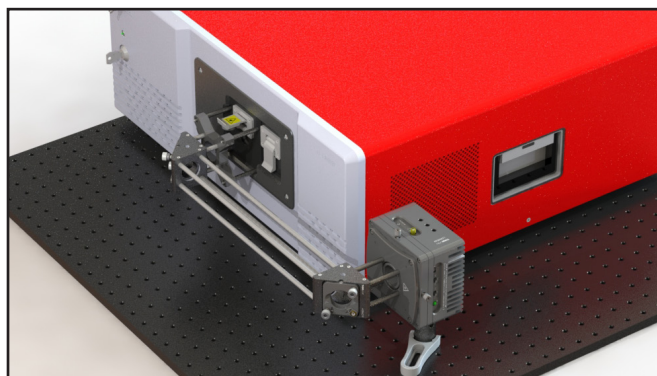

Figure 3: An example free-space setup for a collimated source, which includes a laser diode mounted in a Thorlabs LDM56 TE-Cooled Laser Diode Mount.
- To simplify alignment, two mirrors in kinematic mounts should be used, where one is placed close to the input port of the OSA and the other near the optical source. One example of how the mirrors can be positioned for a collimated source is shown in Figure 3.